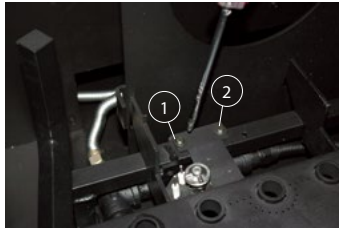

Figure 20. (Pilot mounting machine screws).
**Step 2.** Remove the two (2) machine screws that hold the Pilot Assembly in place, **Figure 20. (Philips head screwdriver required).**
**Step 1 & 2. Figure 20.** (Pilot mounting machine screws).